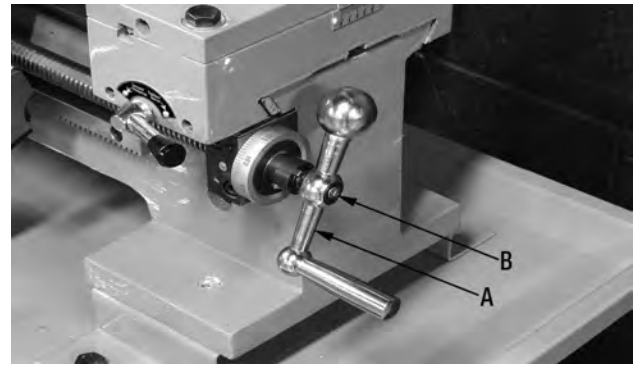

FIGURE 4
1. The leadscrew handle (A) Fig.4 must be installed to the end of the leadscrew. Remove washer and cap screw (B) and then make sure the spring behind the washer stays on the leadscrew. Install handle (A). To use this handle, push it in towards the leadscrew, turn handle while keeping pressure applied.